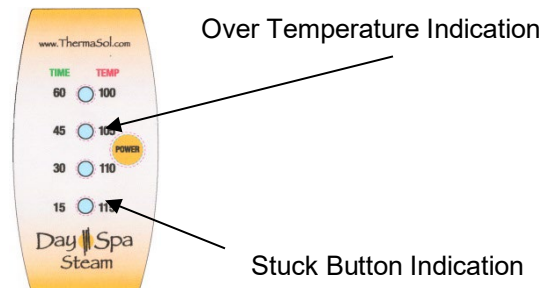

Figure 11
5. Diagnostic Feature. The Day Spa TT control has a unique diagnostic feature. If there is a malfunction within the unit, it will alert you. The red 105° LED will flash if the shower area exceeds 135°F, and the red 115°F LED will flash if the control button becomes stuck. If any of these diagnostics happen the unit will shut down and lock out all user interfaces. To reset the unit, power will need to be reset at the breaker or at the steam distribution system switch. Contact a ThermaSol technician at **(800) 776-0711** for further trouble shooting steps. **(Figure 11)**